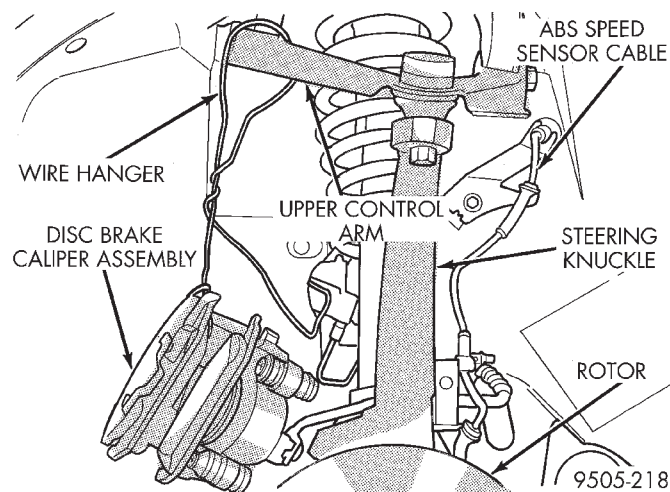

Fig. 43 Correctly Supported Front Disc Brake Caliper
(7) Support brake caliper/adaptor assembly using a wire hook (Fig. 43) and not by hydraulic hose.